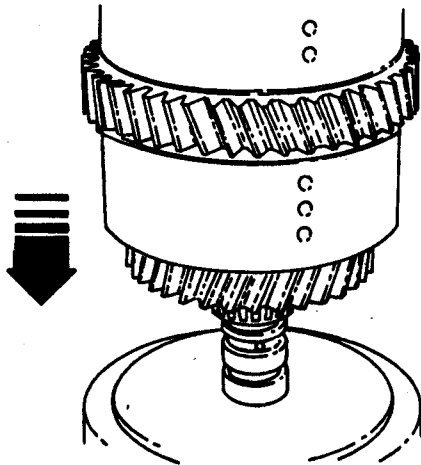

Figure 40.
2. Loosen the high clutch end bearing by tapping the assembly on a piece of aluminum as shown in Figure 40.
9. Knock the clutch shaft on a piece of aluminum (or wood) to remove the piston (See Figure 40). If the piston does not loosen when the clutch shaft is knocked on aluminum, then hand pump air down the shaft oil inlet hole.
10. Remove piston assembly (67). Remove and discard piston o-ring (68) and shaft o-rings (66). Make sure the piston liner (69) is secure. The liner must be a tight fit on the piston.
11. Loosen the low clutch end bearing (87) by tapping the assembly on a piece of aluminum. Remove bearing using pullers.